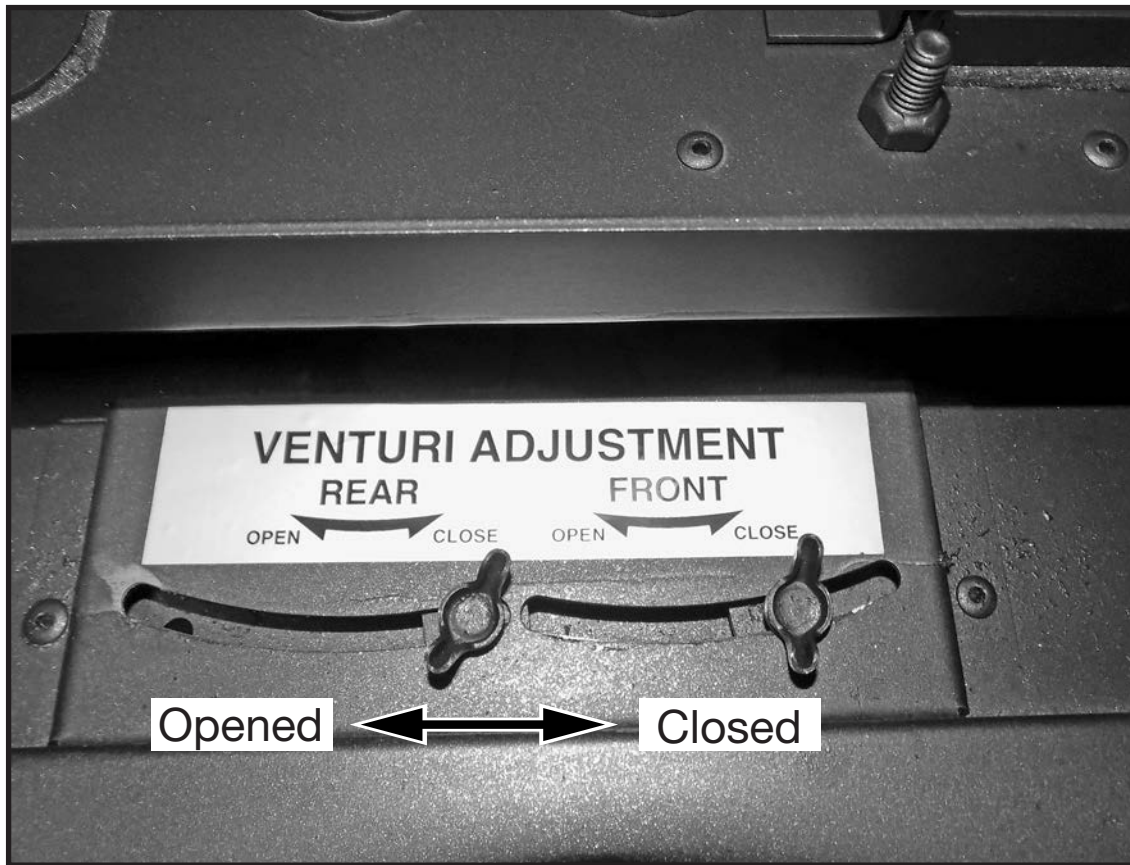

Figure 104: Venturi adjustments.
3. With the fireplace turned on, use the adjustments (Figure 104) to adjust for flame appearance.